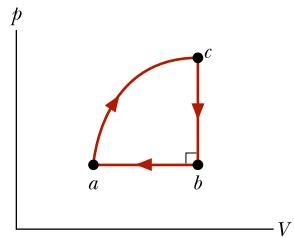

Figure 18.31 Problem 75.
- 75** Figure 18.31 displays a closed cycle for a gas. From c to b , 40 J is transferred from the gas as heat. From b to a , 130 J is transferred from the gas as heat, and the magnitude of the work done by the gas is 80 J . From a to c , 400 J is transferred to the gas as heat. What is the work done by the gas from a to c ? (Hint: You need to supply the plus and minus signs for the given data.)